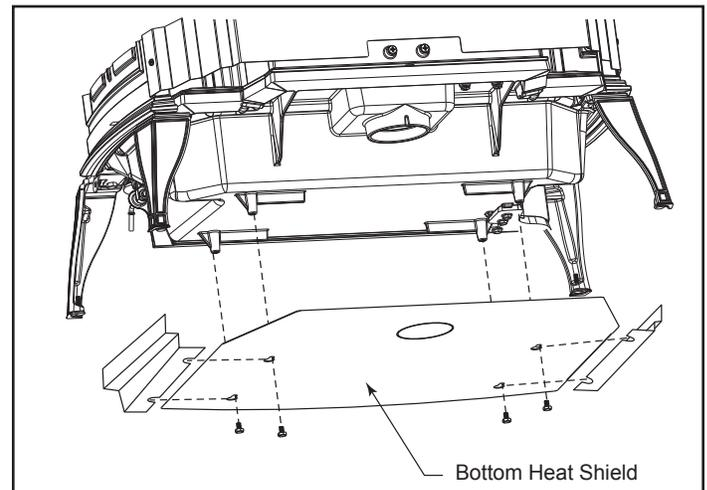

Figure 22 - Attach the bottom heat shield.
2. Pass all four bolts through the large end of the keyholes and then pulling the shield forward to engage the smaller ends of the keyhole slots. (Figure 22)